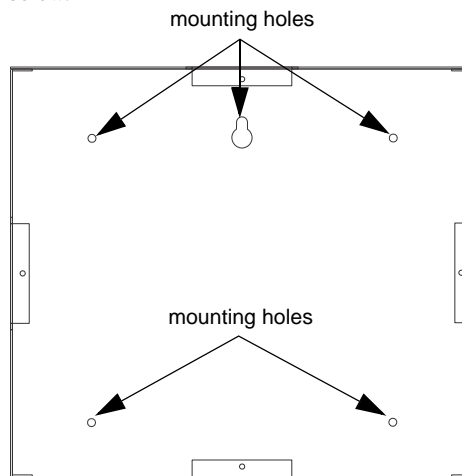

Figure 2 RA-2000/GRAY Backbox Mounting
2. Mark and pre-drill hole in the wall for the center top keyhole mounting bolt. Refer to Figure 2 for mounting hole locations.